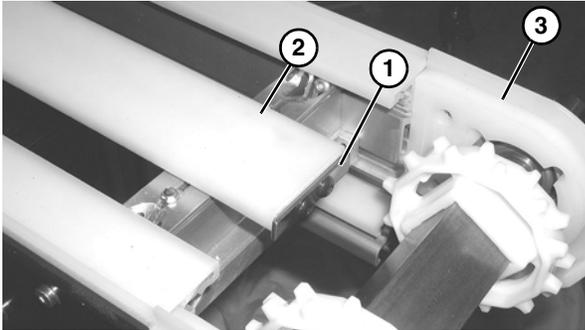

Figure 5
The stop plate (Figure 5, item 1) on the center wear strip (Figure 5, item 2) faces the drive end (Figure 5, item 3) of the conveyor.